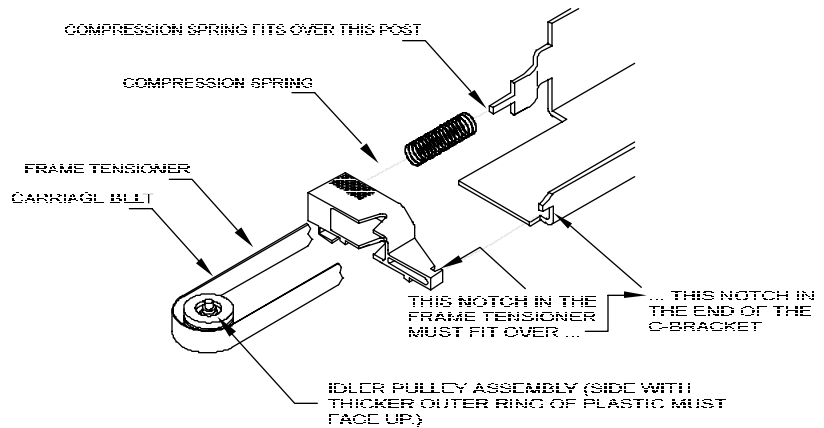

Figure 5-13. Frame Tensioner.
8. Push the Carrier Belt through the Frame Tensioner enough to remove the Idler Pulley Assembly from the Frame Tensioner, and then set aside the Idler Pulley Assembly and the Frame Tensioner. See Figure 5-13.
7. Insert the Strain Relief (with Trailing Cable) onto the Carrier Assembly by sliding it onto the Strain Relief Support until it snaps firmly into place. See Figure 5-13.
12. Holding the Carrier Belt and Frame Tensioner, insert the Idler Pulley Assembly into the loop of the belt. Make sure that the side of the Idler Pulley Assembly with the thicker outer ring of plastic is facing up. See Figure 5-13.